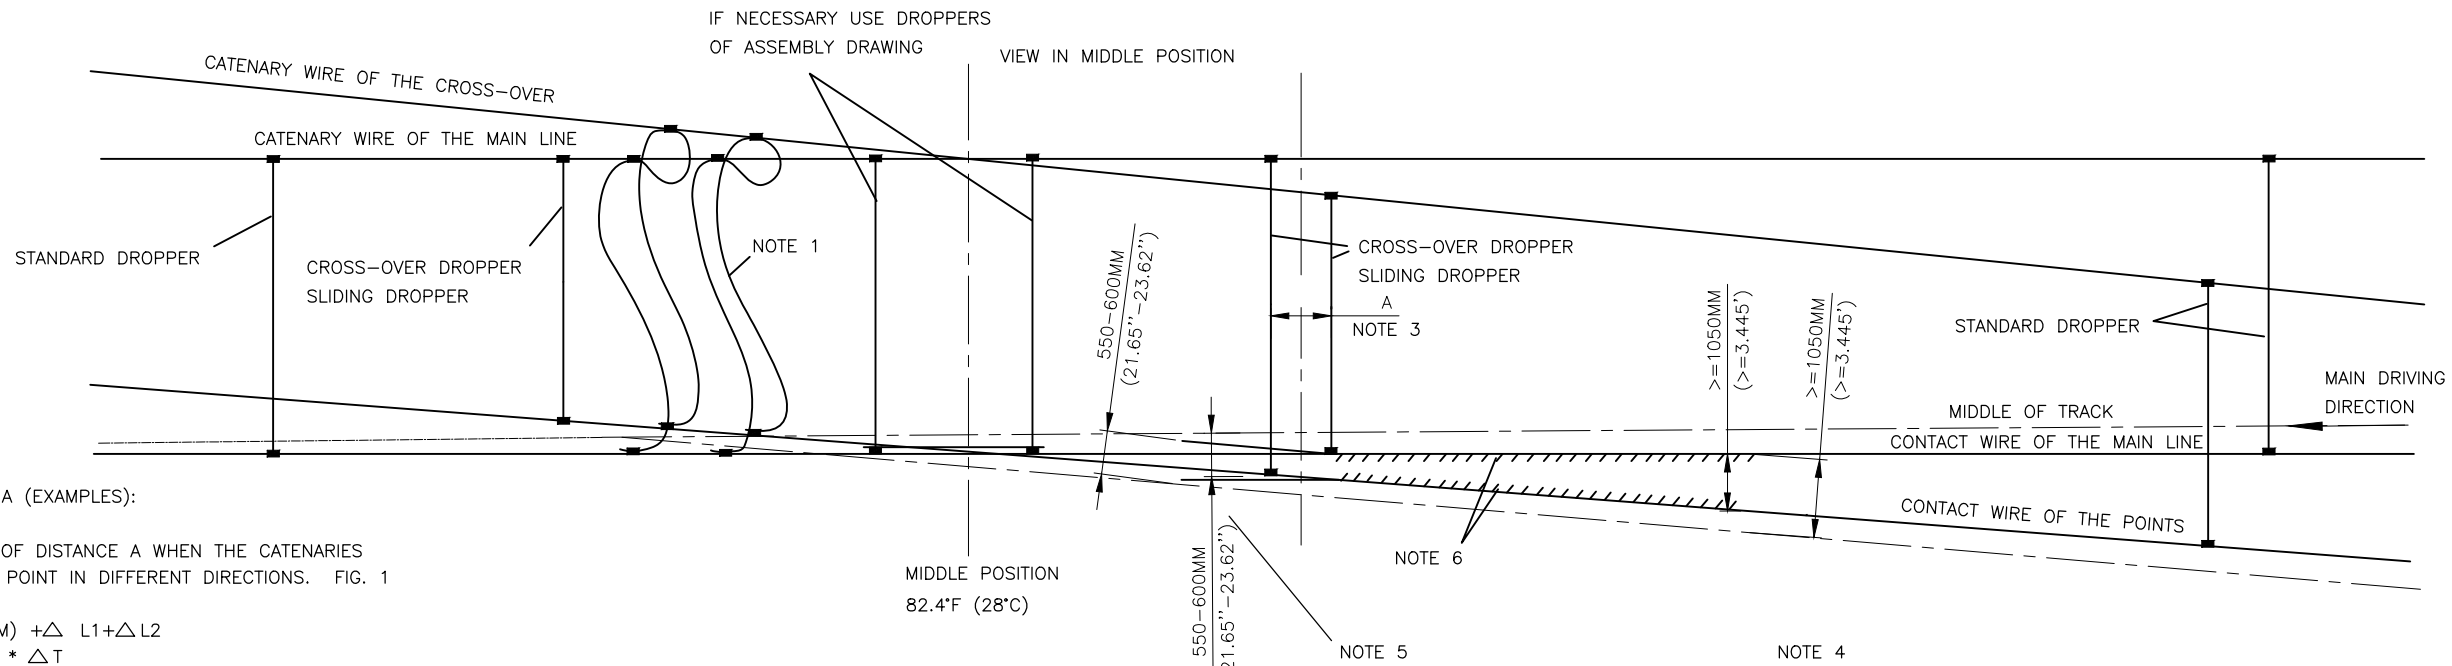

FIG. 3
1. THE ELECTRICAL CONNECTION IS TO BE MADE ON THE CONTACT WIRE WHICH RUNS-OUT IN THE MAIN DRIVING DIRECTION AFTER THE CROSSING. (FIG. 3)
3. DISTANCE BETWEEN CROSS-OVER DROPPERS A; THERMAL EXPANSION OF THE CONTACT WIRES + SAFETY MARGIN OF 5.90" (15CM) MUST BE CONSIDERED. (FIG. 3)
5. THE TWO CROSSING CONTACT WIRES SHOULD BE INSTALLED WITH CROSS-OVER DROPPERS AT THE SLIP-ON POINT, AND SHOULD BE POSITIONED EXACTLY PARALLEL TO THE PANTOGRAPH CONTACT STRIP. (FIG. 3)
6. S : IN FRONT OF AND BEHIND THE CROSSING NO BIG CLAMPS (ALLOWED: DROPPER CLAMPS) ARE TO BE INSTALLED AT THE CONTACT WIRE (HATCHED CONTACT WIRE). THAT MEANS IN THE AREA OF THE PANTOGRAPH RAMP. (FIG. 3)